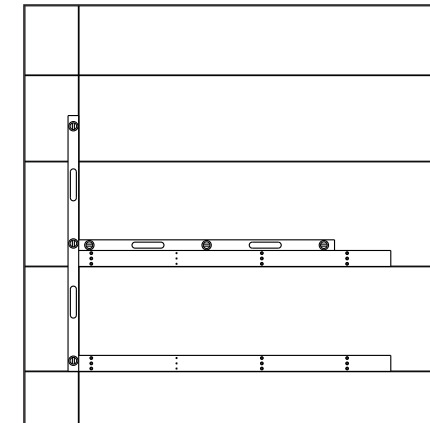

Figure 8: Repeat Stud Attachment Pattern
- Move up to the next row of tubes and repeat the stud attachment pattern from the bottom row. Refer to **Figure 8**. Verify the tube is horizontally level and the tubes are plumb and level to each other by a tolerance of ±1/4" in the X-axis and by +1/4"-1/2" in the Y-axis. Y-axis tolerance for the top tube is ±1/4" to prevent the tube from extending above the top of the display.